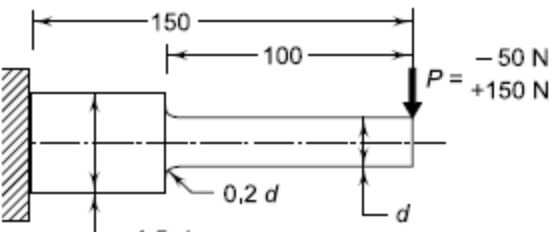

Fig. 5.42
**Example** A cantilever beam made of cold drawn steel 40C8 ( $S_{ut} = 600 \text{ N/mm}^2$  and  $S_{yt} = 380 \text{ N/mm}^2$ ) is shown in Fig. 5.42. The force  $P$  acting at the free end varies from  $-50 \text{ N}$  to  $+150 \text{ N}$ . The expected reliability is 90% and the factor of safety is 2. The notch sensitivity factor at the fillet is 0.9. Determine the diameter 'd' of the beam at the fillet cross-section.